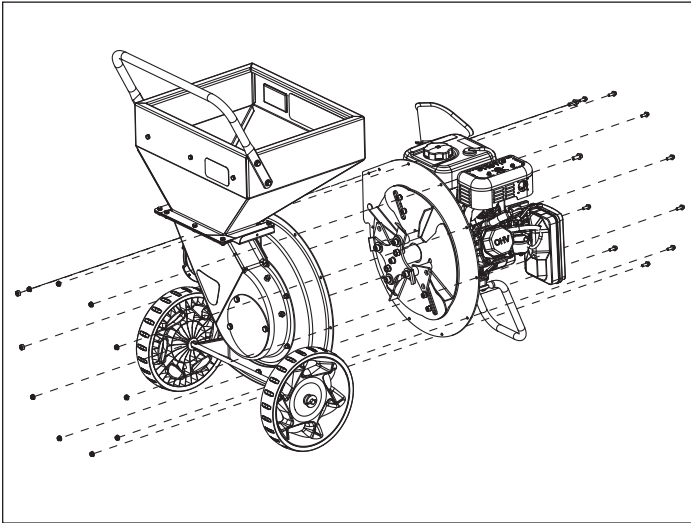

FIGURE 13 - Gaining access to the knives and hammers
3. Detach the rotor housing and hopper from the rotor plate. **SEE FIGURE 13**